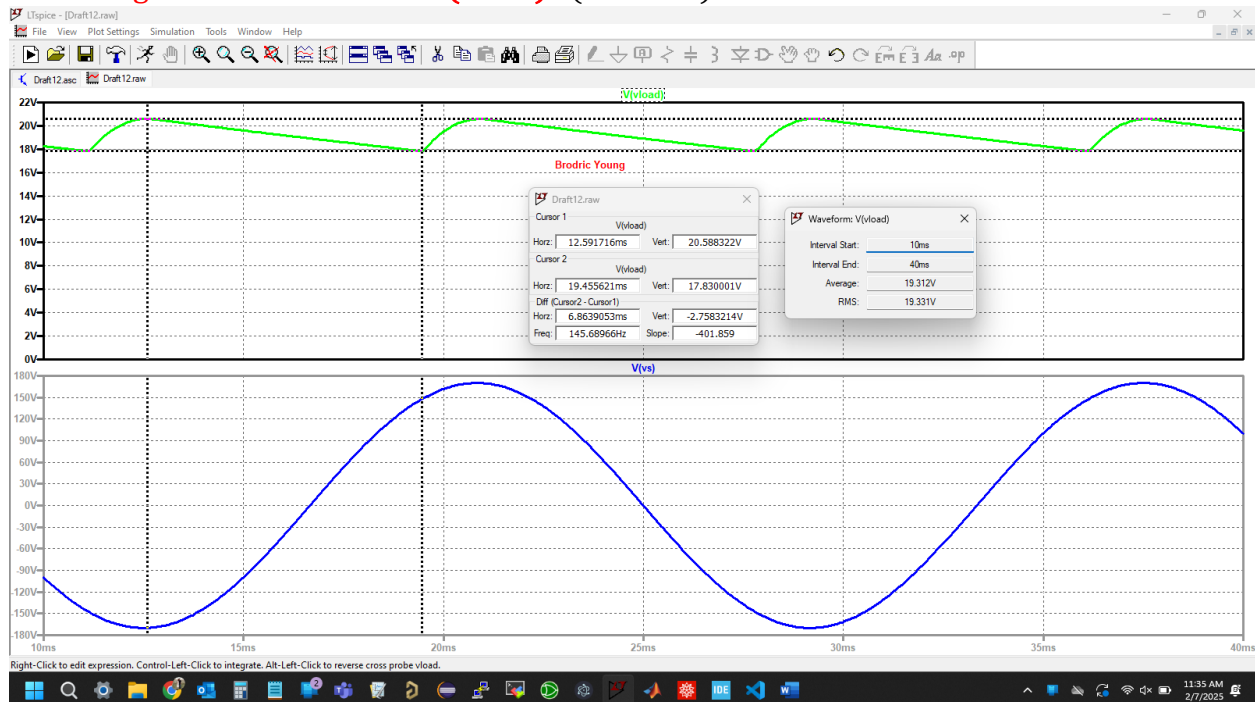

Figure 9. Full-Wave Rectifier Using A Center-Tapped Transformer Simulation Results.
6. After running the transient analysis, add a 2nd plot pane by means of **Plot Settings** → **Add Plot Pane**. Choose to display **V(vload)** in the 1st (top) plot pane and **V(vs)** in the 2nd (bottom) plot pane, as illustrated below in **Figure 9**. With the two plot panes, click on the appropriate pane before invoking the **Plot Settings** → **Add Trace** to get the desired traces associated with the desired plot pane.